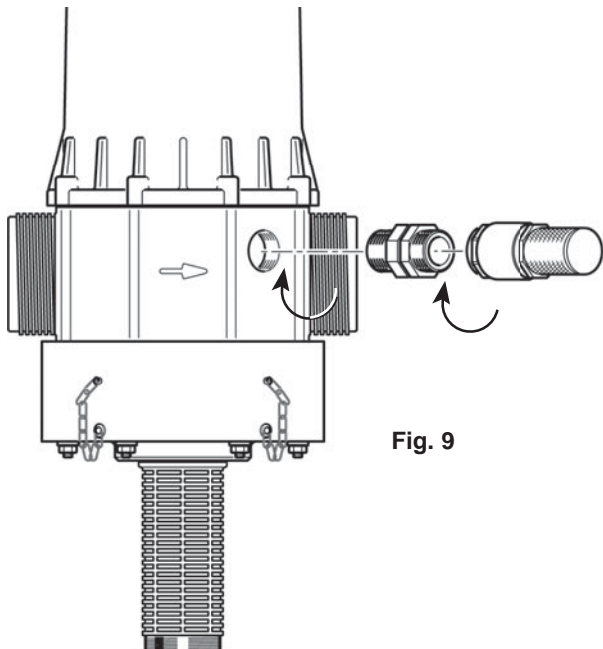

Fig. 9
- This automatically recreates normal atmospheric pressure in the Dosatron in the event of an accidental vacuum in the line (**Fig. 9**)\*.